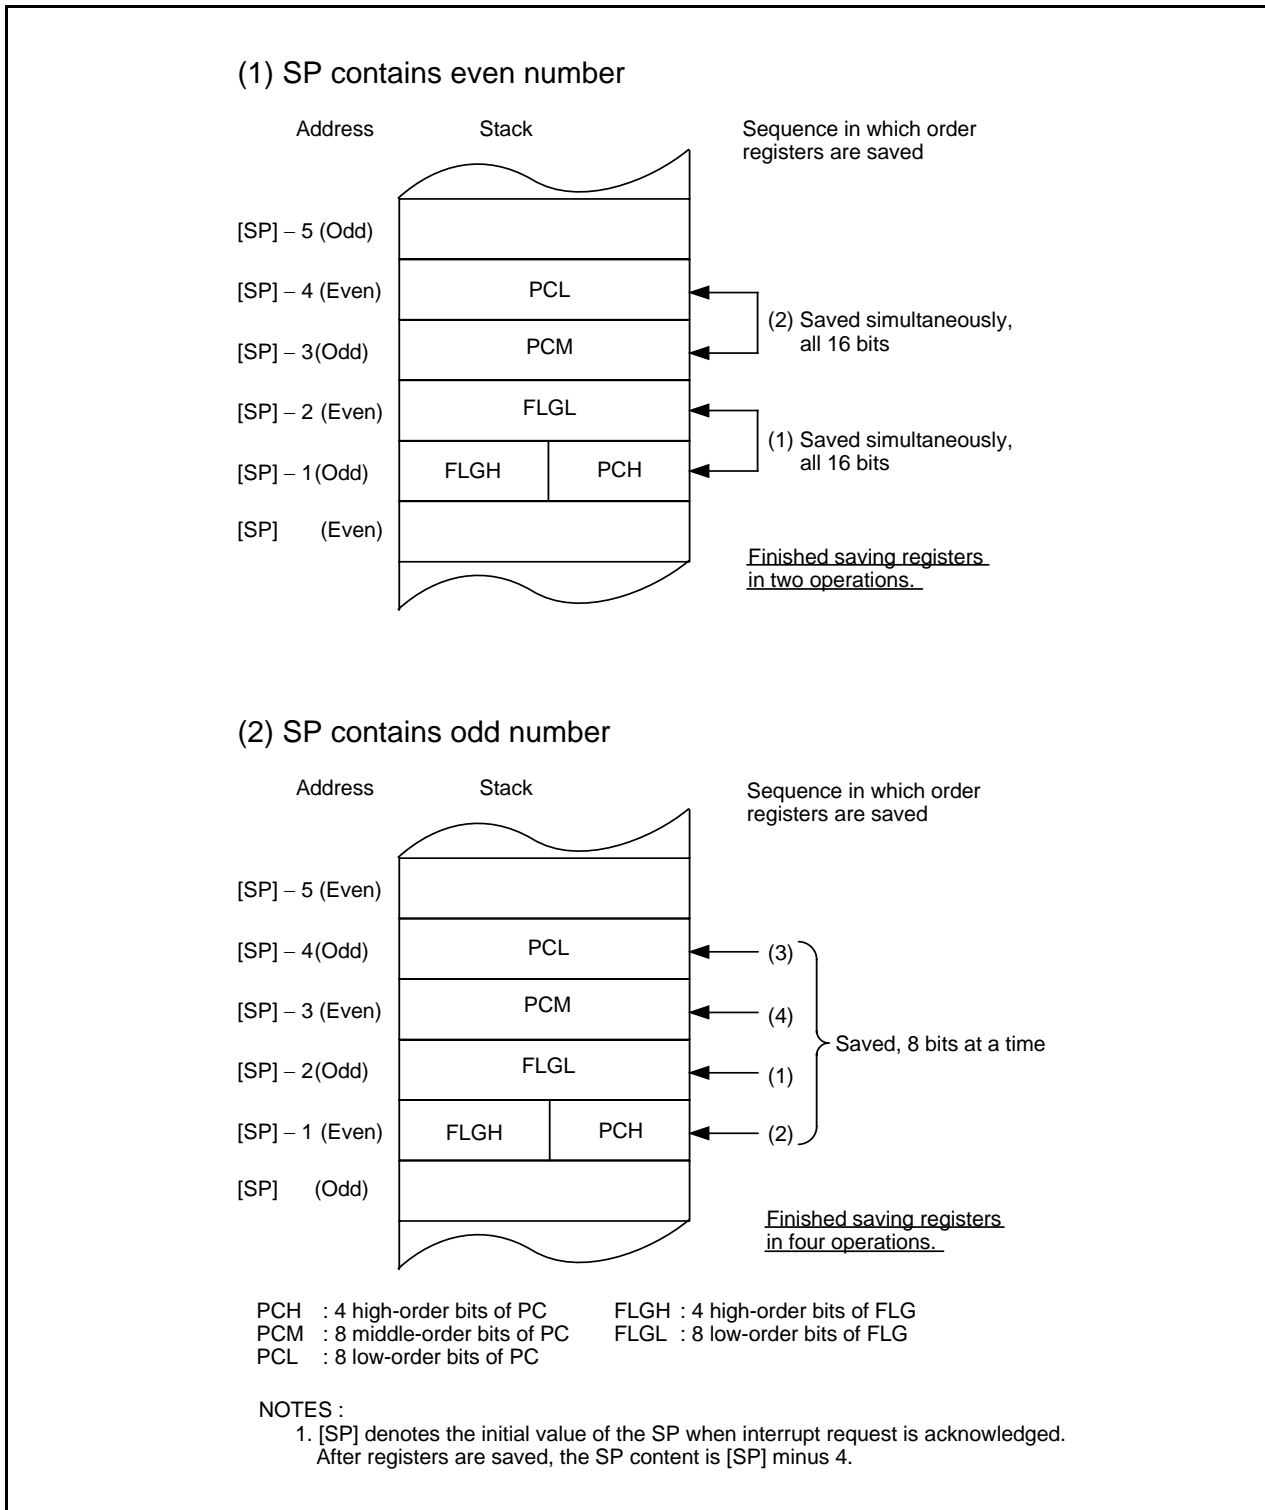

Figure 11.8 Operation of Saving Register
The operation of saving registers carried out in the interrupt sequence is dependent on whether the SP(1), at the time of acceptance of an interrupt request, is even or odd. If the stack pointer(1) is even, the FLG register and the PC are saved, 16 bits at a time. If odd, they are saved in two steps, 8 bits at a time. Figure 11.8 shows the Operation of Saving Register.